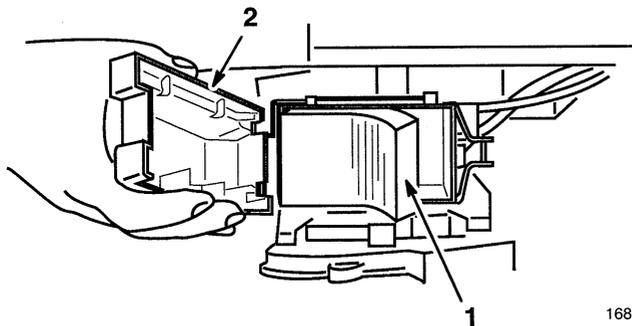

Figure 15
2. To remove air filter, snap cover latch open, swing to side and unhook (Fig. 15).